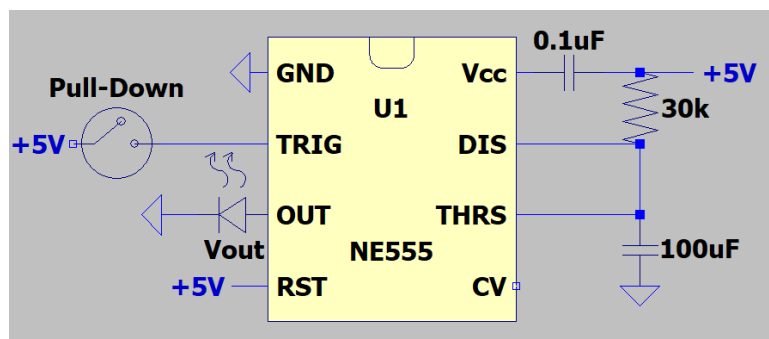

Figure 1: 555 Timer Monostable Circuit
- a. (In Figure 1 $R_A = 30k \text{ ohm}$ and $C = 100\mu F$)
Note: Figure 1 is a schematic for a 555 Monostable Timer that is “normally on”. This means that the input to the trigger needs to be high by default, and when you press the button, this will pull down the voltage to 0. What should look like on the output of the chip is that when the button is not pressed, the output will be low, and when it is pressed, the output will be high. In contrast, a “normally off” version of the timer will require the input to be low by default, with pressing the button pulling the input up, and it will exhibit the same output behavior.